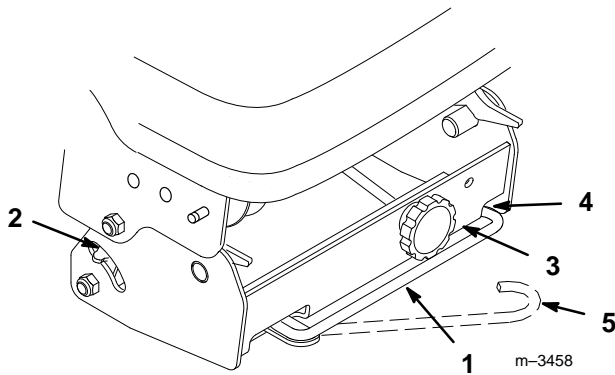

Figure 13
3. Release the belt tension release arm on the pulley box housing and swing it out toward you (Fig. 13).
6. Loop the other end of the belt over the drive pulley of the mower. Additional belt slack can be obtained (if needed) by turning the belt tension adjustment knob (Fig. 13).
- C. If the tension indicators are not in the same position on both the left and right sides, release the belt tension, turn the adjustment knob and repeat steps A and B until the indicators move to the same position (Fig. 13).
- D. Once the indicators are in the same position on both sides, swing the tension release arm into the pulley box and seat it by moving it into the position shown in Figure 13.